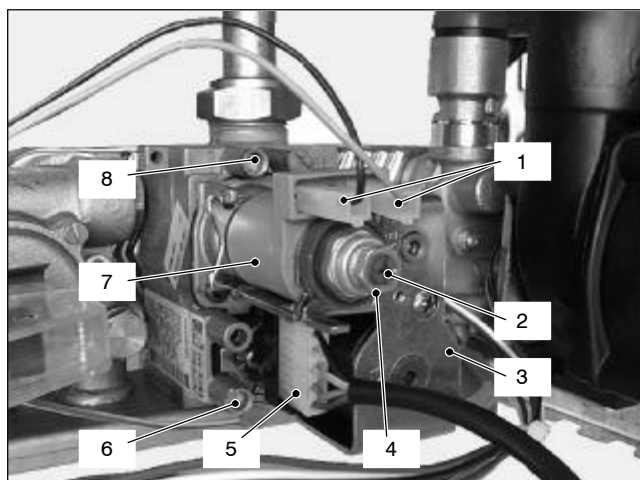

Fig. 45
12.2 Nomenclature of the parts (Fig. 45)
- 2 Open the gas valve inlet pressure test point (6 in Fig. 45) at the valve input, connect a suitable pressure gauge and check the gas pressure of the supply network.
- 4 Open the gas valve outlet pressure test point (8 in Fig. 45) and connect the gauge;
- 7 Rotate the maximum gas pressure adjustment (4 in Fig. 45) until you obtain the required pressure (by rotating clockwise the pressure increases).
- 8 Disconnect one of the two connectors (1 in Fig. 45) or, alternatively, remove the service panel as explained in the section 2.3 of this manual and set the dip–switch selector 1 (see section 10.5) to the OFF position.
- 9 Rotate the minimum gas pressure adjustment (2 in Fig. 45) until you obtain the required pressure (by rotating clockwise the pressure increases).